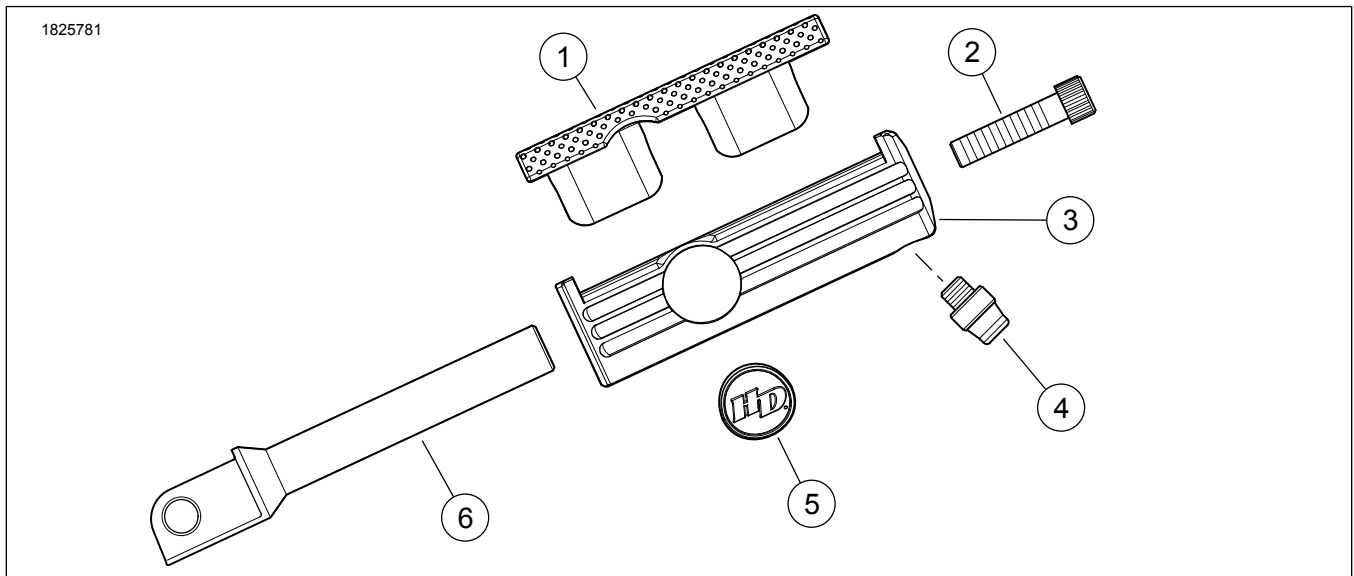

Figure 1. Kit Contents: Foot Peg Kit
1. See Figure 1. Remove existing wear peg from foot peg.